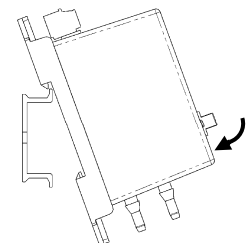

Figure 6: Catch EZ Mount hook on DIN rail before rotating sensor into place
- Catch EZ mount hook on DIN rail as shown in Figure 6.